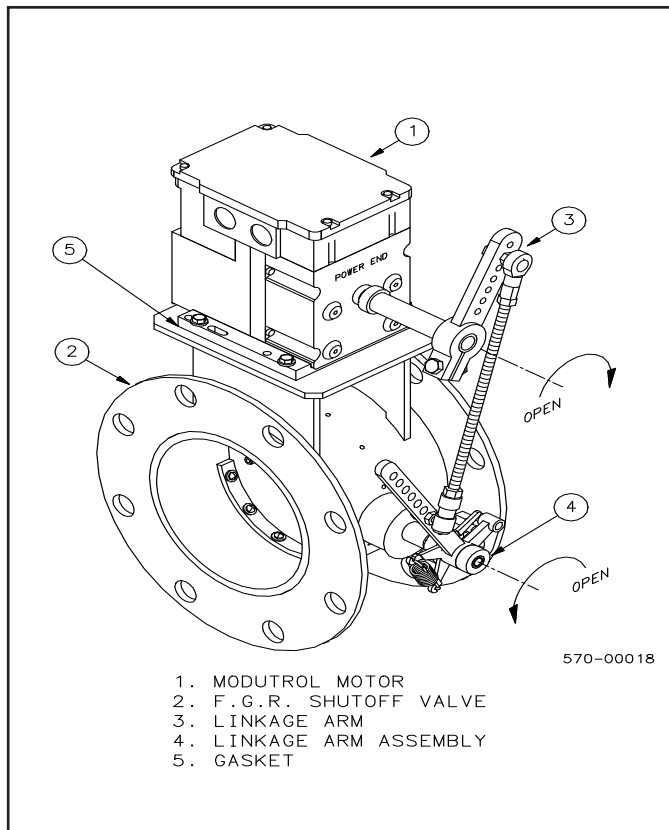

Figure 7-1
A. F.G.R. SHUTOFF VALVE. (Figure 7-1)